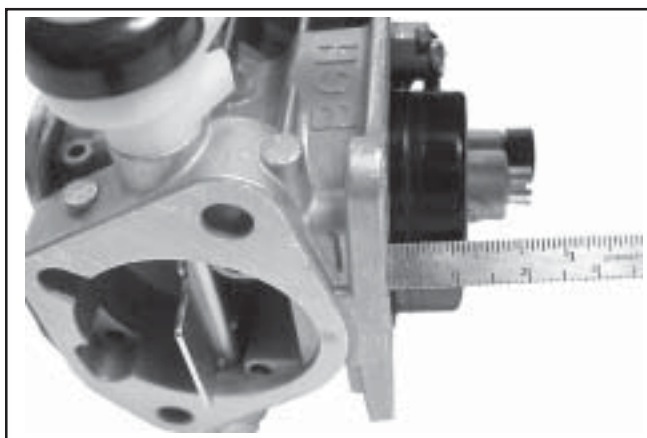

Figure 5-15. Checking Float Height.
7. The correct float height adjustment is **12.0 mm (0.472 in.)** measured from the float bottom to the body of the carburetor. See Figure 5-15. Adjust the float height by carefully bending the metal tang of the float.